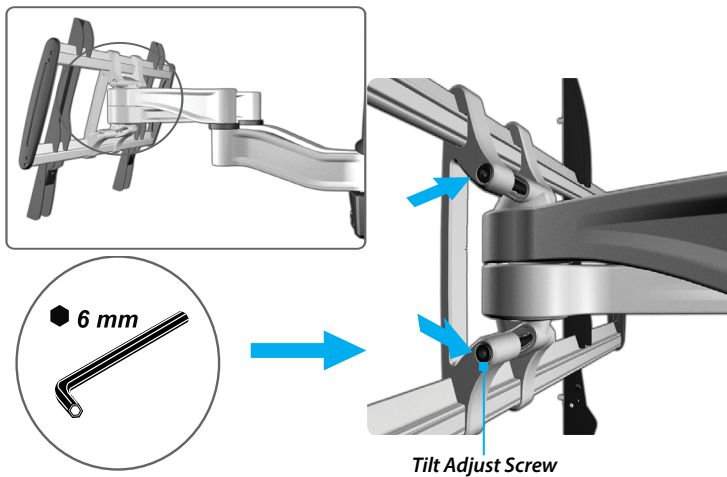

Figure 12
3. Tighten the **Tilt Adjust Screws** located on the **TV Wall-Mount Assembly** using the **6 mm Hex Key**. (Figure 12)